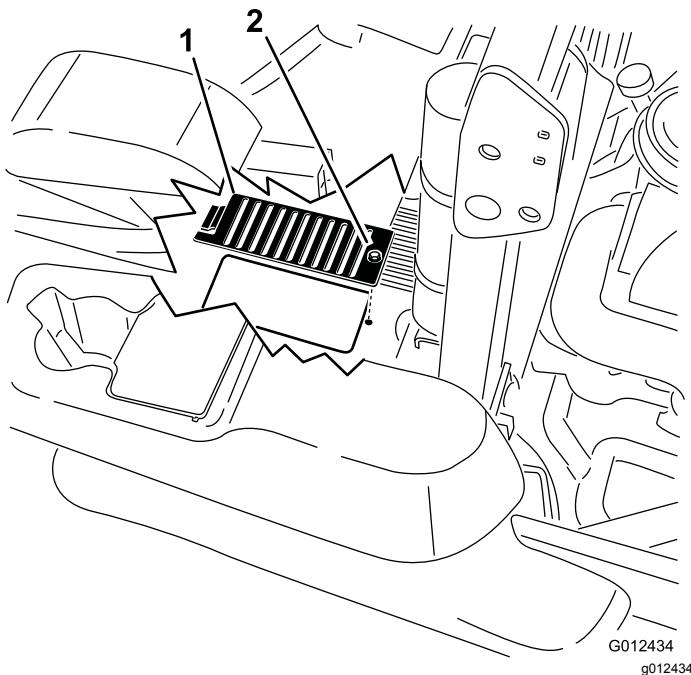

Figure 81
6. Over each dipstick, remove the cover and the bolt attached to the cover . Clean around each dipstick and hydraulic unit (Figure 81).